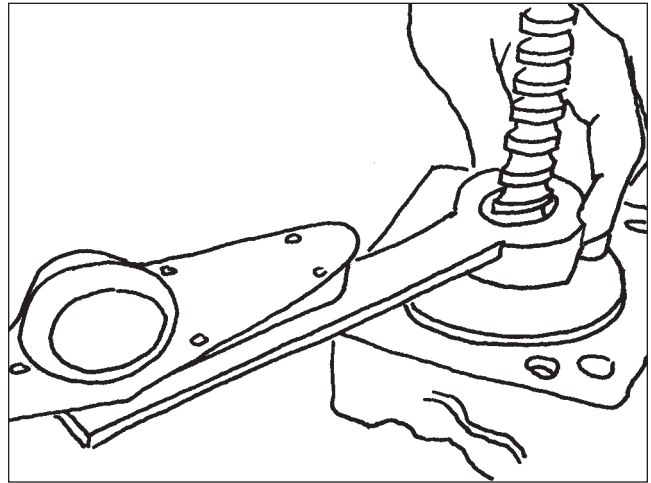

Figure 77
21. Attach the dial-type inch pound torque wrench to Tool #3563982. Install the shaft retaining nut using Tool #3563982. Torque the nut to 25-35 inch pounds (**Figure 77**).